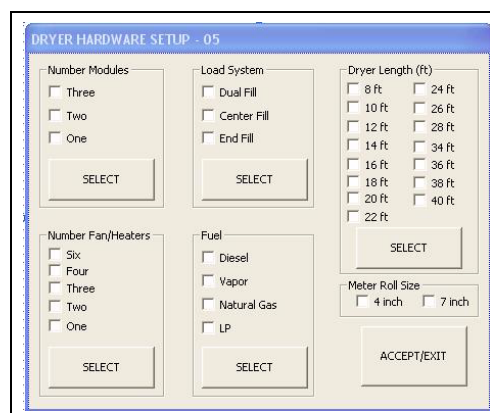

Figure 5X
- Meter Roll Size: (See Figure 5X.)